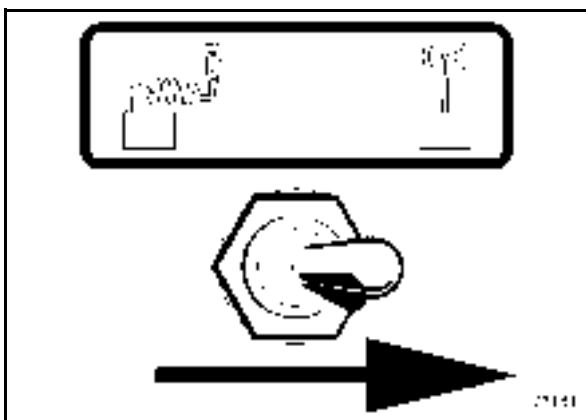

Fig. 61
- Set the toggle switch (Fig. 61) to remote control position.